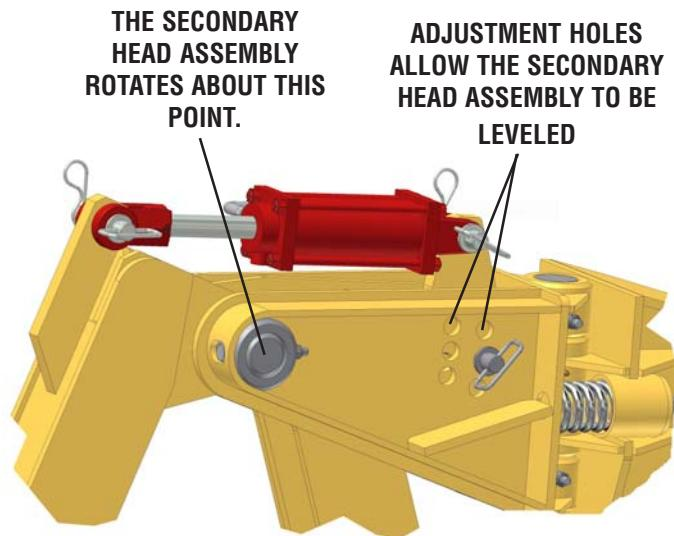

Figure 9
7. The Head Assembly is adjustable to counteract the lean of the tractor and to maintain a level interface to the barrier. Inspect the barrier's lean and adjust the head by choosing an appropriate hole for the adjustment hitch pin. The carriage assembly is correctly adjusted when the bottom of the barrier is roughly parallel with the road surface. See Figure 9.